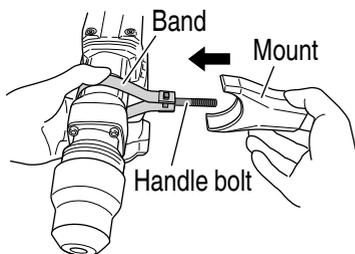

Fig. 4
- (3) As you hold the band to make sure the handle bolt won't come loose, insert the handle bolt into the mount. (**Fig. 4**)